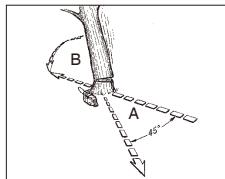

Fig. 11A
**WARNING:** A retreat path (A) should be planned and cleared as necessary before cuts are started. The retreat path should extend back and diagonally to the rear of the expected line of fall, as illustrated in Fig.11A.
**NOTE:** Direction of fall (B) is controlled by the notching cut. Before any cuts are made, consider the location of larger branches and natural lean of the tree to determine the way the tree will fall.
**⚠️ WARNING:** As the felling cut gets close to the hinge, the tree should begin to fall. When tree begins to fall, remove saw from cut, stop engine, put chain saw down, and leave area along retreat path (Fig.11A).